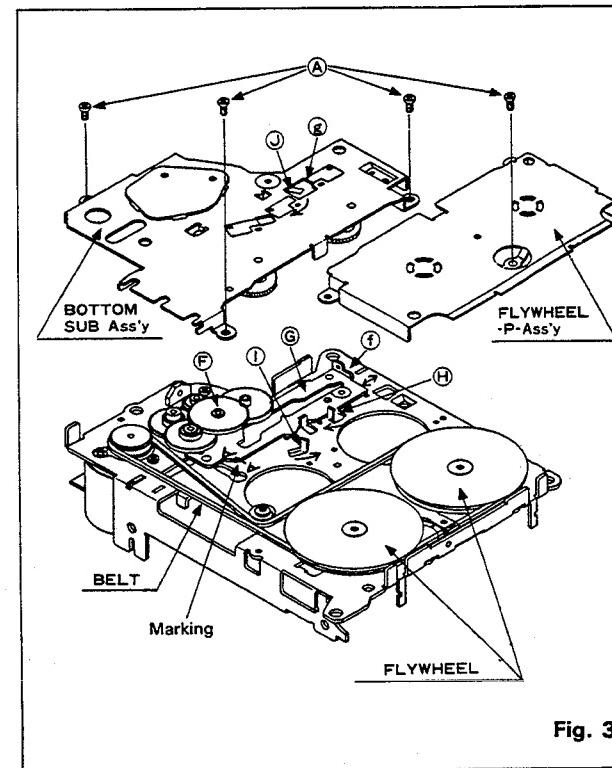

Fig. 3
(Refer to Fig. 3)
- (5) Following replacement of the belt, flywheel and reel base ass'y, remove the gear C ⑩ and move Section ⑪ of the mode plate ass'y ⑫ in the arrowed direction to make marks A-A fit. (Refer to Fig. 3).